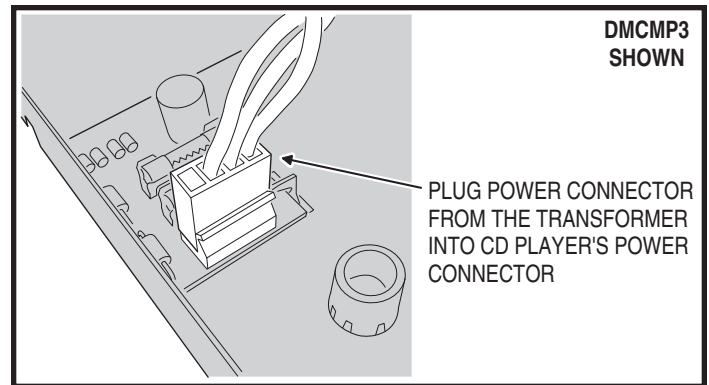

Figure 25. CD/MP3 Player Power Connection
11. Plug the connector from the TE2D power transformer in the wall housing to the CD Player's POWER connector (see Figure 25).